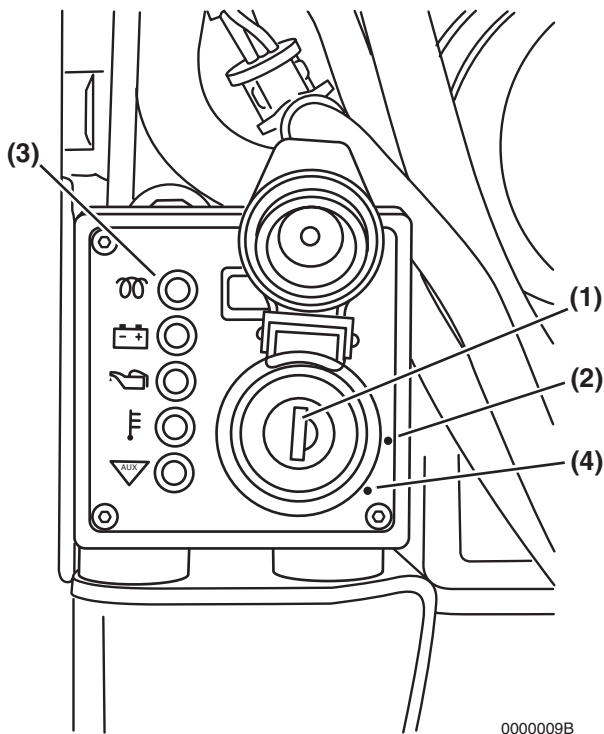
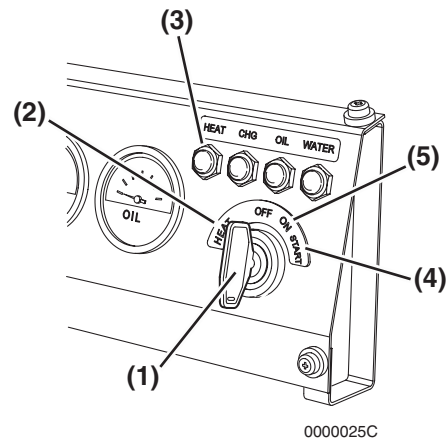

Figure 2
Figure 3
6. Insert the key (**Figure 2, (1)**) or (**Figure 3, (1)**) into the key switch.
7. Turn the key to the ON position (**Figure 2, (2)**) or the HEAT position (**Figure 3, (2)**). The Pre-Heat indicator (**Figure 2, (3)**) or Heat indicator (**Figure 3, (3)**) flashes for several seconds and then goes out. After the Pre-Heat / Heat indicator goes out you can start the engine.
8. Turn the key clockwise to the START position (**Figure 2, (4)**) or (**Figure 3, (4)**). Release the key as soon as the engine starts. It will return to the ON position (**Figure 2, (2)**) or (**Figure 3, (5)**).